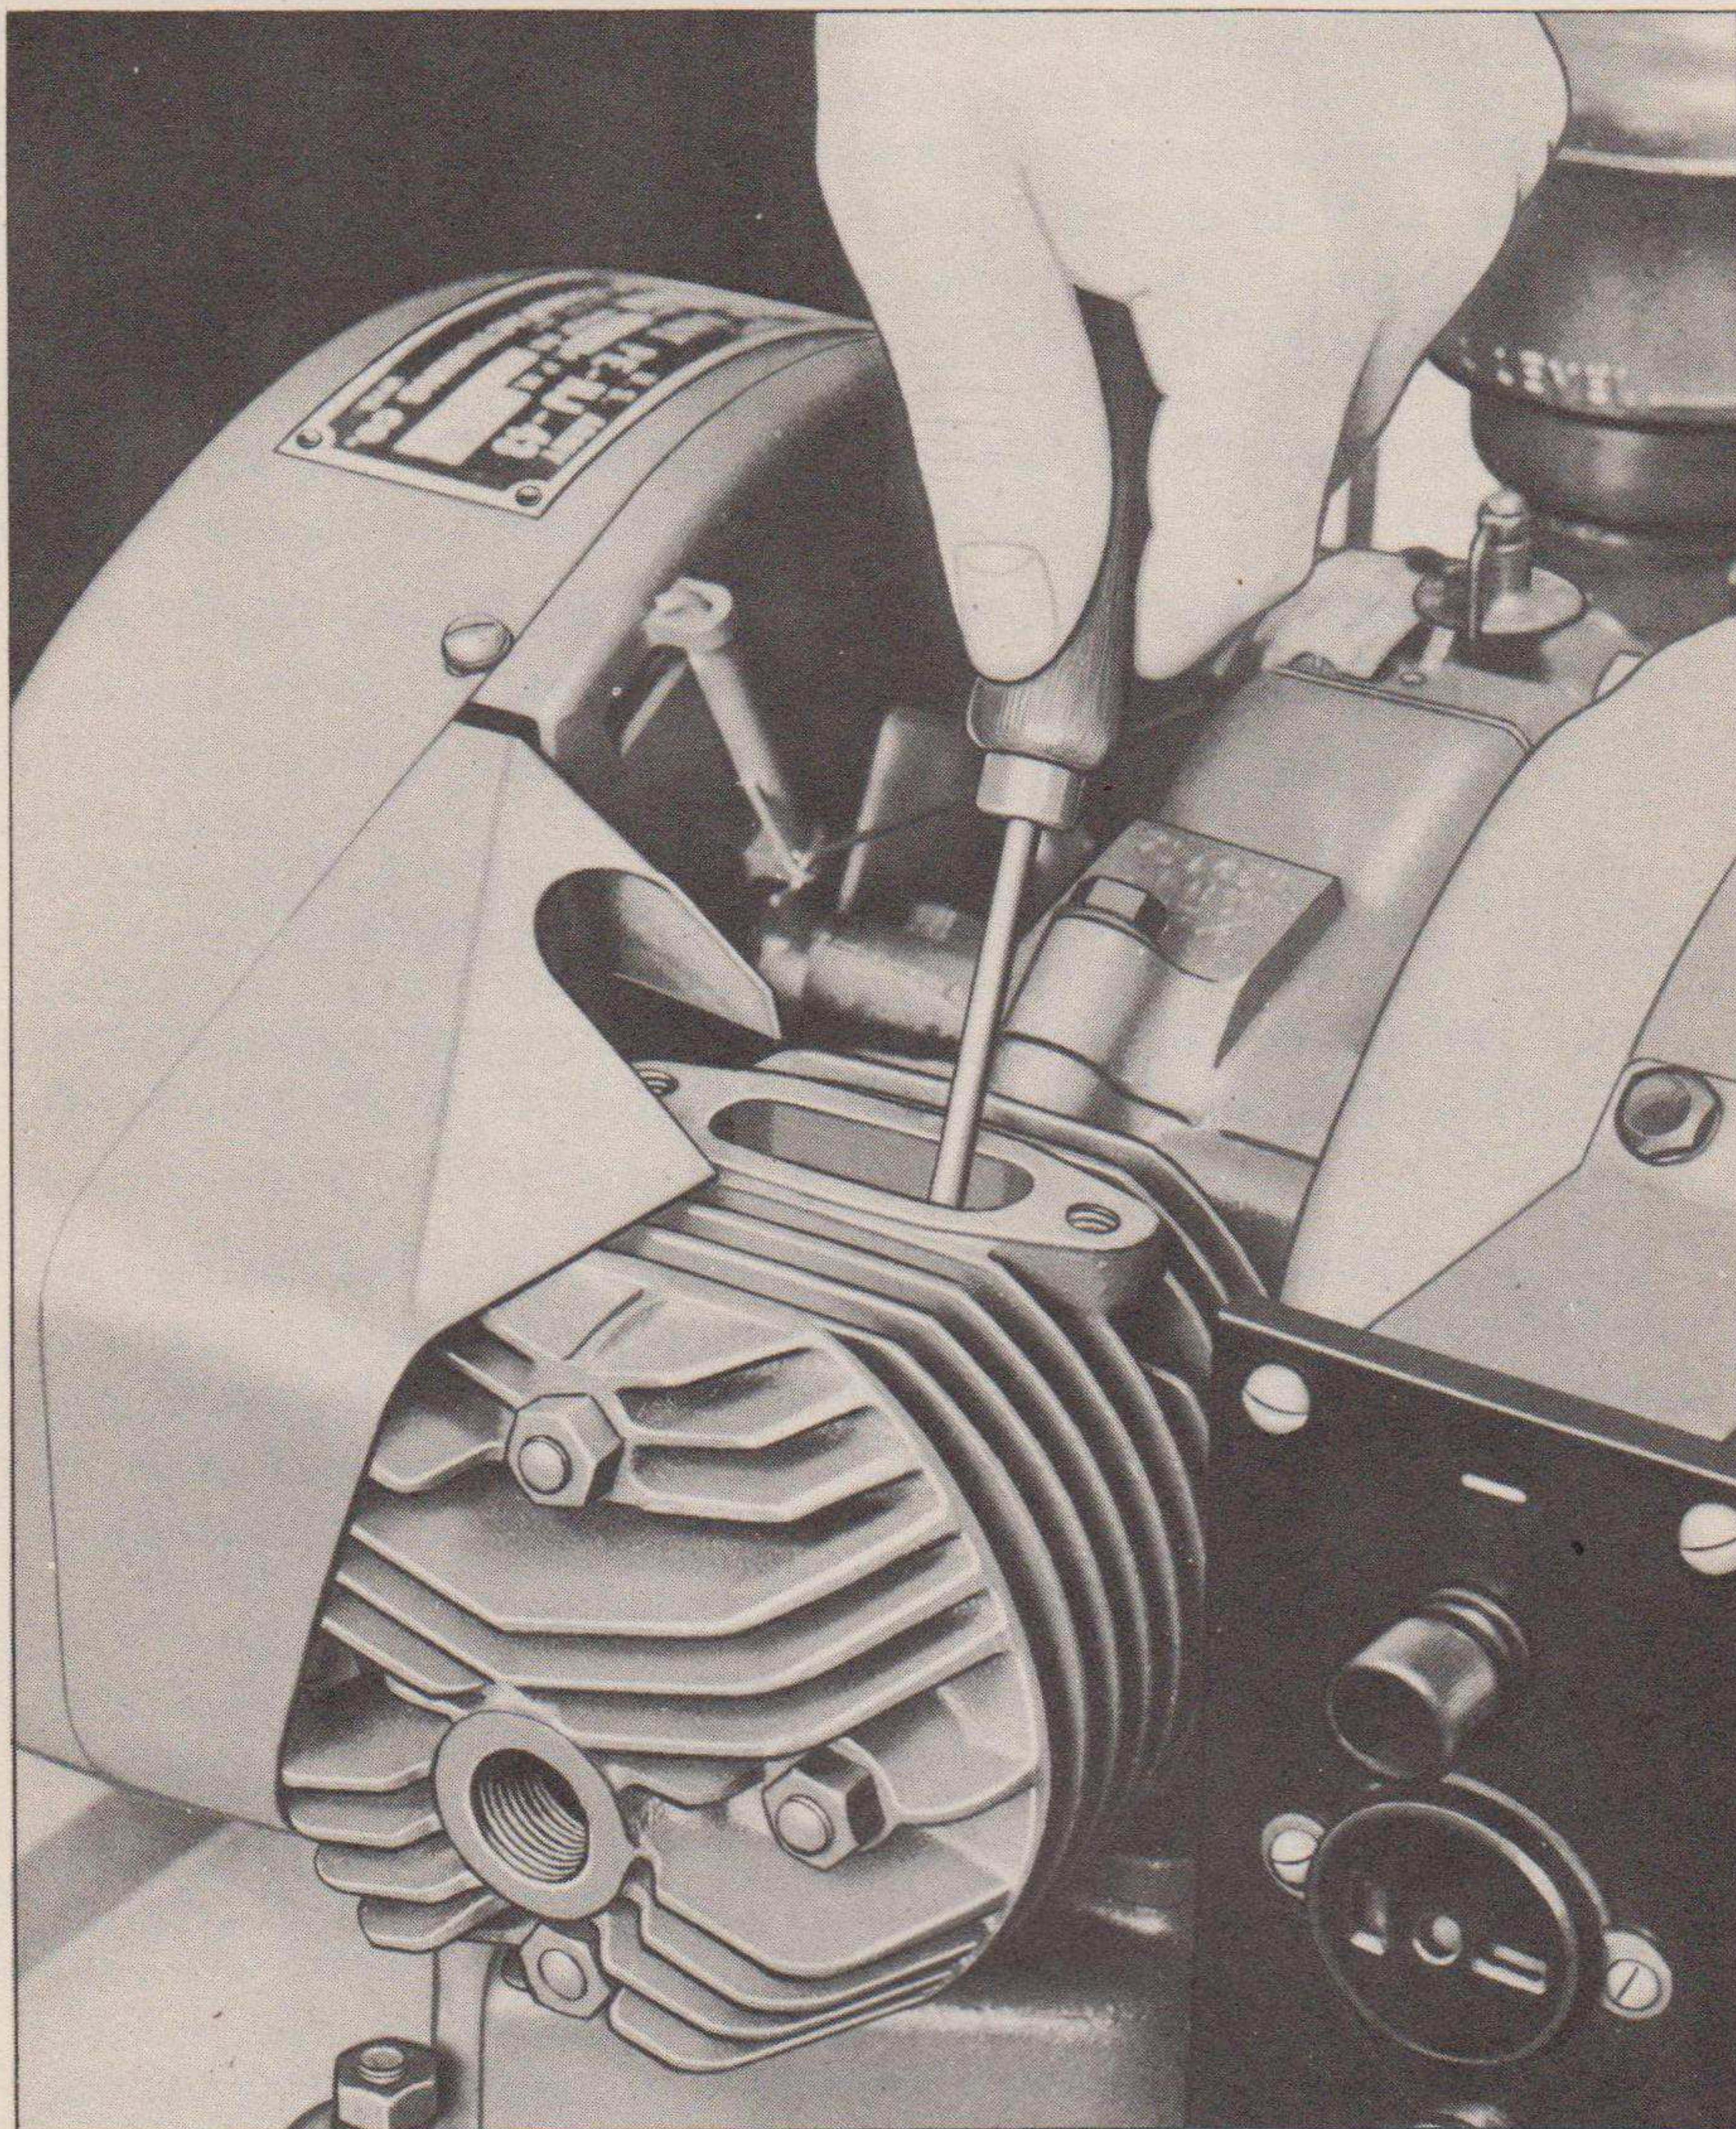

FIG. 14. CARBON REMOVAL—EXHAUST PORTS
(2) Remove muffler.
(3) Turn engine over by hand until piston reaches bottom dead center. Examine exhaust ports. Carbon and lead deposits in the exhaust ports can be removed with tool. (See Fig. 14, page 30.) Be careful not to damage piston when removing the deposits from ports.
(4) It is preferable when exhaust ports are found partially closed by carbon and lead deposits, to make a thorough check of the piston, intake ports, and cylinder head. The following should be done: